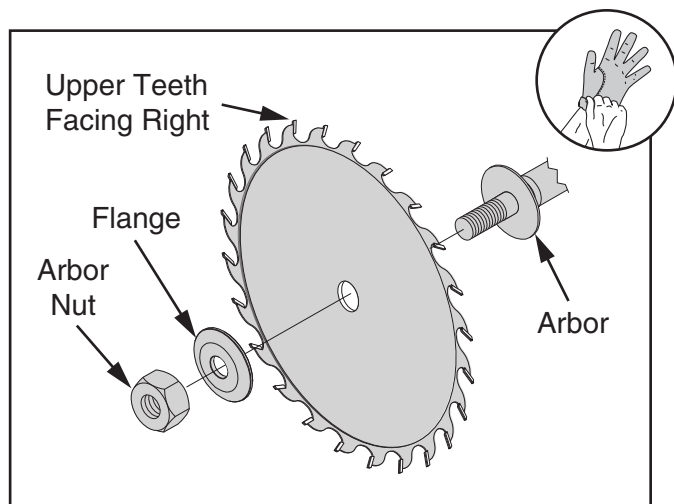

Figure 33. Main blade component assembly.
25. Slide main blade (not included) over arbor with teeth facing right, then install flange (see **Figure 33**).